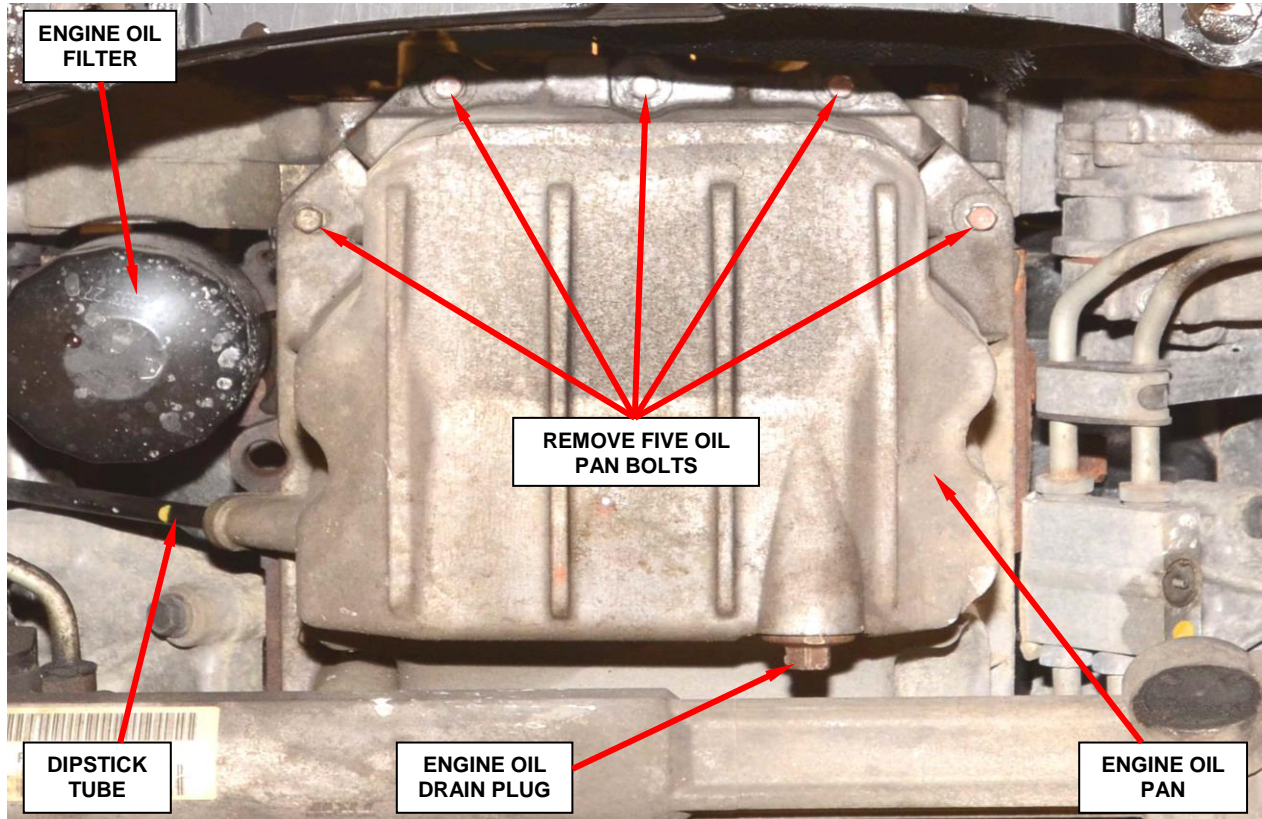

Figure 5 – Oil Pan Bolts
29. Remove and save the three front oil pan bolts (Figure 5).
30. Remove and save the right and left side front oil pan bolts (Figure 5).